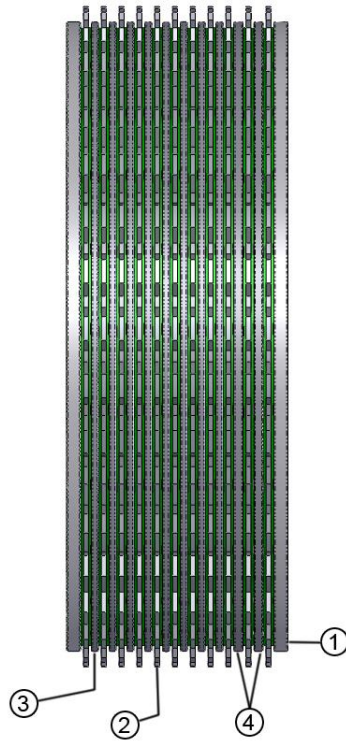

Figure 1
- 3) The Dampener assembly is a very tight fit in the clutch assembly. To remove, drill (2) 1/8" holes through the friction surface 180 degrees apart. Thread a #10 X 1" hex head sheet metal screw into each hole approximately 1/4" deep. Grip these screws with locking pliers and carefully remove the dampener assembly by alternating from side to side.
- 6) With the clutch basket clean, insert the new .121" thick clutch steel into the clutch and slide it to the landing on the clutch hub. Using a small screw driver or scribe, slide the clutch dampener assembly into the basket. Using patience and a steady hand, work the rubber around it's diameter into the splines a little at a time. It is a tight fit by design. **DO NOT USE ANY LUBRICANT ON THE RUBBER.** Take care not to tear the rubber dampener ring during installation. With the dampener assembly in place and while referencing Figure 1 install the rest of the clutch pack. Be sure to install the last steel plate with the flat surface facing in towards the clutch hub. **DO NOT SOAK OR LUBRICATE THE CLUTCH PLATES. THEY ARE DESIGNED TO BE RUN DRY.**